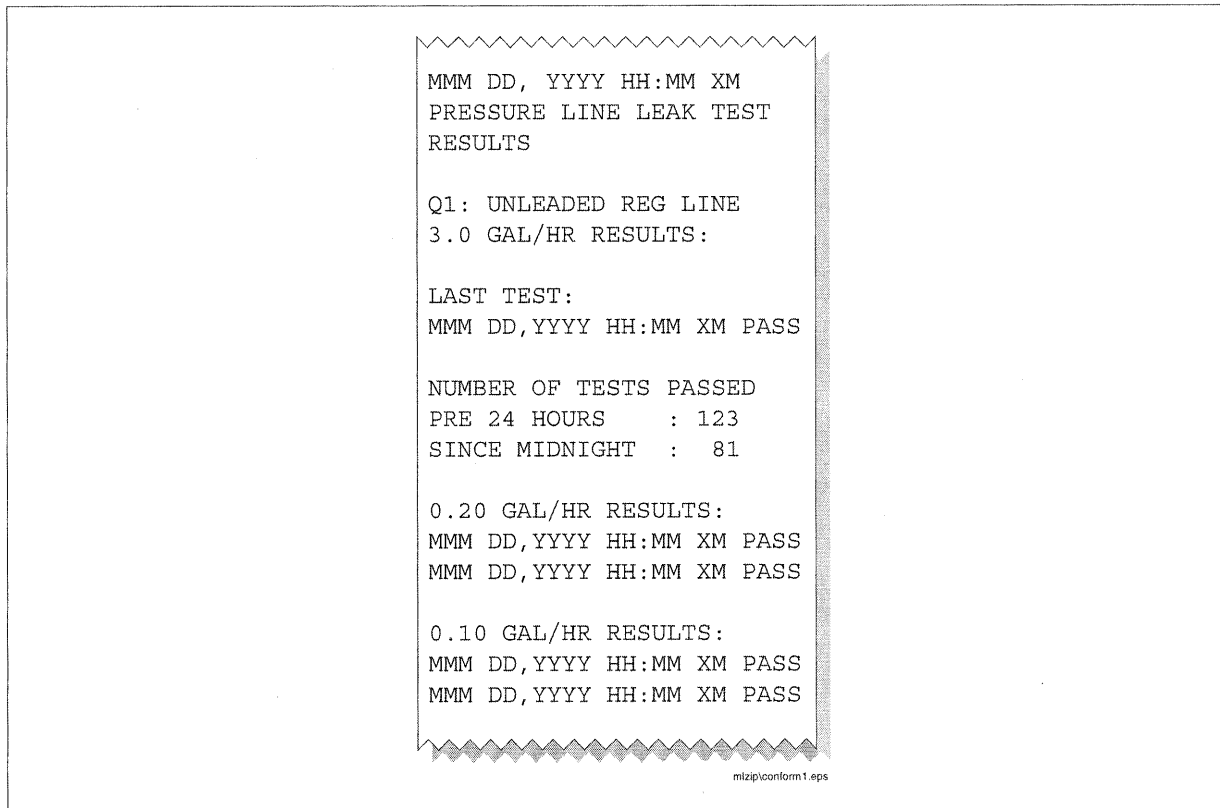

Figure 2. PLLD Line Leak Test Results Report Example
2. If a printout is desired and a printer is present, pressing the <Print> button will print out the test results (see Figure 2).